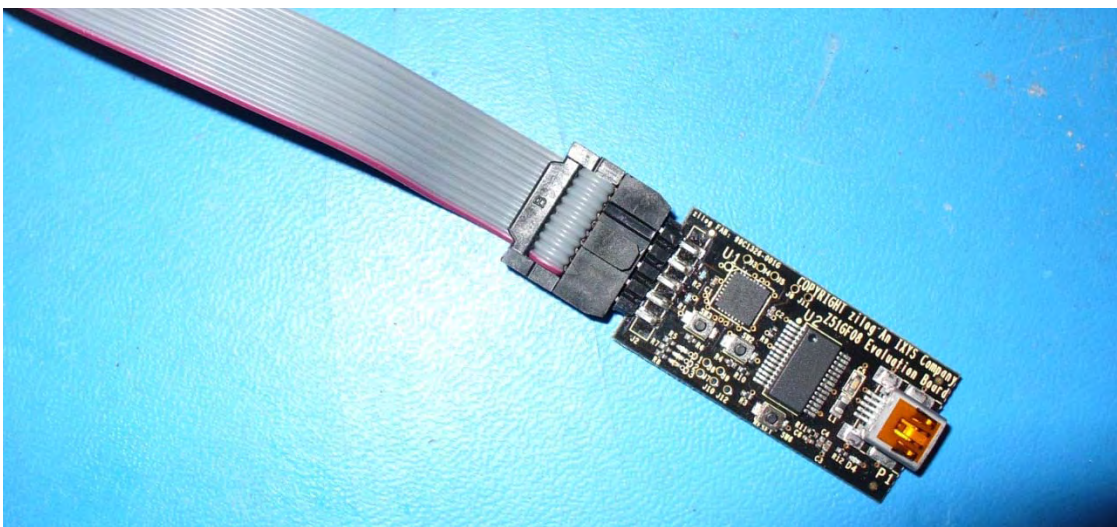

Figure 28. 10-pin Cable Connected to the Z51F0811 Evaluation Board
2. Connect the 10-pin cable to the OCD Module and to the Z51F0811 Evaluation Board, and ensure that the connection appears as shown in Figure 28.